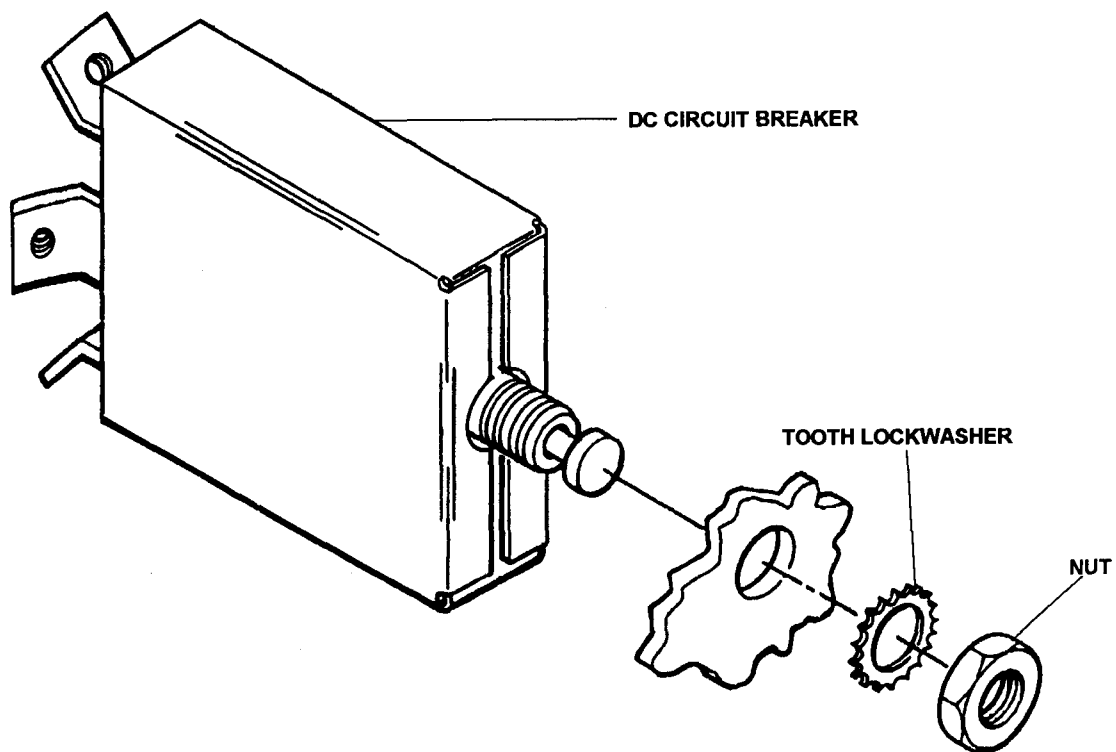

Figure 4-43. DC Circuit Breaker, Removal and Installation
- (1) Tag and disconnect electrical leads to DC circuit breaker (Figure 4-43).
- (2) Remove mounting nut and tooth lockwasher to remove circuit breaker.
- (1) Position DC circuit breaker and install tooth lockwasher and mounting nut (Figure 4-43).
- (2) Connect electrical leads to DC circuit breaker.